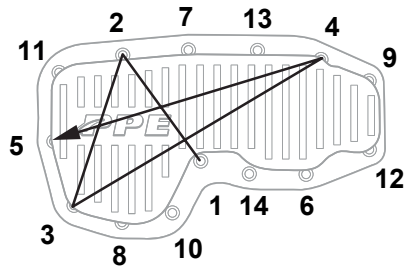

Fig 2
- Step 9. Tighten in a crossing pattern as shown (Fig 2). Final torque spec: 8-10 ft lbs.